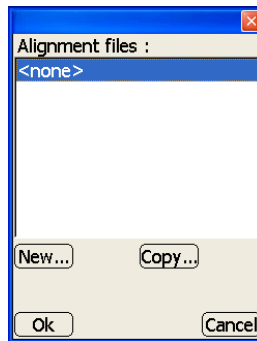

Figure 2-35. Alignment Files
1. Press **Data ▶ Alignment ▶ [<none> or file name]**. On the *alignment files* dialog box, press **New** to create a design surface file, or press **Edit** to change an alignment (Figure 2-35).